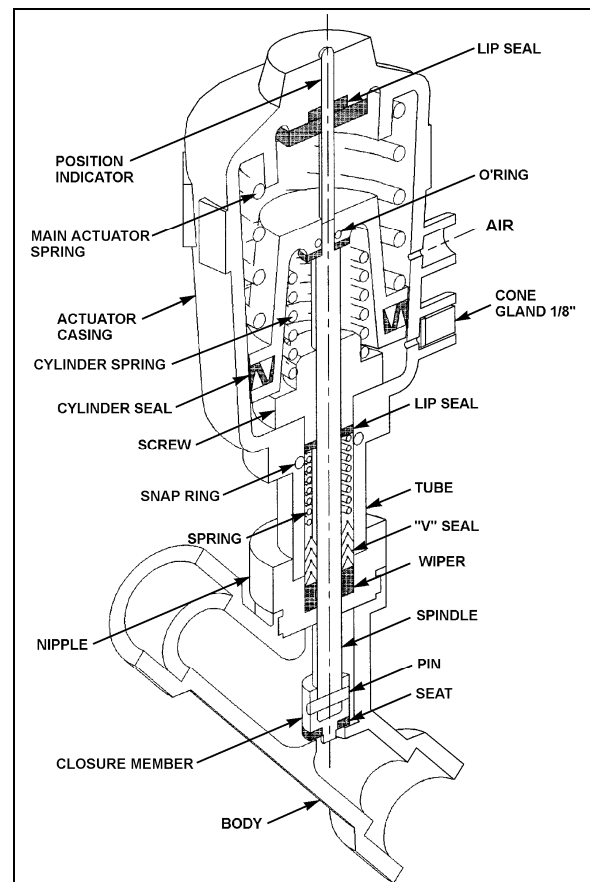

FIGURE 42: PNEUMATIC WATER VALVE 22241
2. The water valve need not be removed from the line. Unscrew nipple, the actuator casing, tube, spindle and closure member can be removed (Fig. 42).
2. Tighten the nipple in place in the body cavity as per figure 42. Fasten pilot solenoid valve to the pneumatic water valve. Reconnect air supply pressure and electrical current to the pilot solenoid valve.